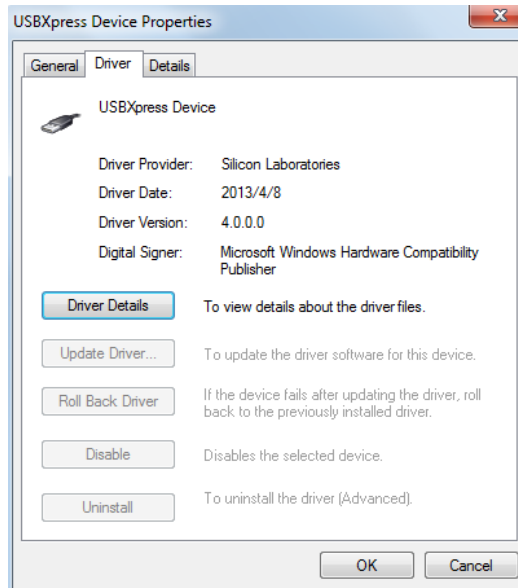

Figure 18: Correct Driver Version
If the PC is running Windows 10, check the driver version of USBXpress Device. Windows 10 automatically installs the older USB driver, which is not compatible. The correct driver version is 4.0.0.0 (see Figure 18).
2. Connect the EVKT-USBI2C-02 or EVKT-USBSPi-00 communication interface to the PC with the USB cable (see Figure 18 on page 16).